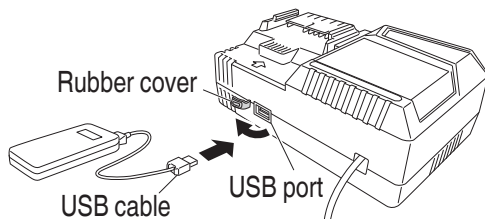

Fig. 15
- (2) Connect the USB cable. **(Fig. 15)**